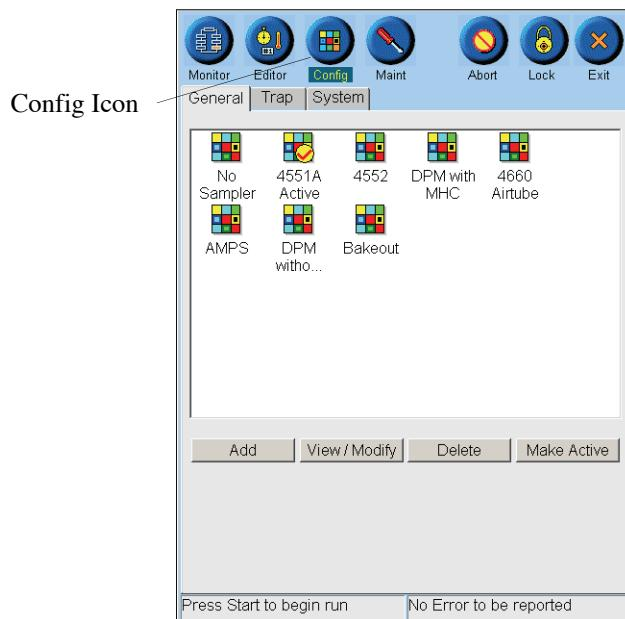

Figure 4.1. General Configuration Screen
1. Press **Config** to access the General configuration screen, depicted in Figure 4.1.